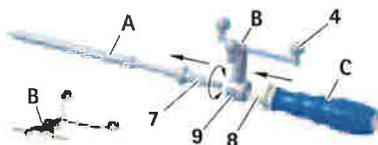

Fig. 4 Mounting the IGS Tool Star Unit and S4C handle onto the S4C screw tap
- Release locking sleeve 8, see Fig. 4.